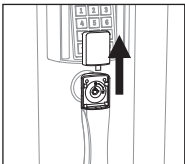

Figure 1
1. The key lock is hidden inside the safe handle. Locate the key cover at the top of the handle and slide up to reveal the lock. (Figure 1)